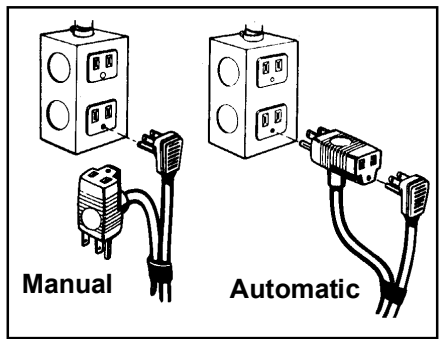

Fig. 3
- 6.) Figure 3 shows a typical connection for pumps with the wide angle float and piggy-back plug. for manual and automatic operations.